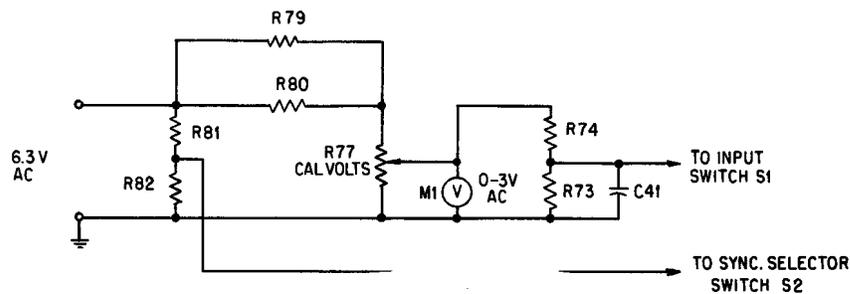

Fig. 6 - 60-Cycle Calibrating Circuit
**4.04** The CAL position of switch S1 connects the 60-cycle calibrating voltage to the input of the vertical amplifier. 60 cycles at 6.3 volts is obtained for this purpose from the heater circuit of electron tube V9. The variable source of voltage is obtained from the slider to ground of potentiometer R77 and measured by voltmeter M1. Resistor R79 and R80 limits the voltage that can be obtained across R77 and protects the voltmeter as shown in Fig. 6. Since the voltmeter reads rms voltages, the resistance network R74 and R73 is required to convert to peak-to-peak values.
(1) Apply the signal voltage as described in Paragraph 5.06 to the oscilloscope and adjust the controls so that an adequate display of the signal is observed on the cathode ray tube.
(2) Using the ruled transparent screen as a scale, note the vertical distance between the extreme amplitude peaks of the signal. **Do not disturb** the V GAIN control after making the measurement.
(3) Turn the INPUT switch to CAL position. (See Fig. 6.)
(4) Adjust the CAL VOLTS control so that the calibration signal (60 cps) displayed is equal in amplitude to the signal as determined by the transparent ruled scale. (Synchronization of the calibrating signal is not necessary.) The reading on the voltmeter scale, multiplied by the input attenuator position (selected in Step 1 of this measurement) determines the signal amplitude in peak-to-peak voltage. For general use in the measurement and comparison of TV signals, the scope should be calibrated in accordance with (c) following so that a 1-volt peak-to-peak signal at the point of observation will span 140 IRE scale divisions.